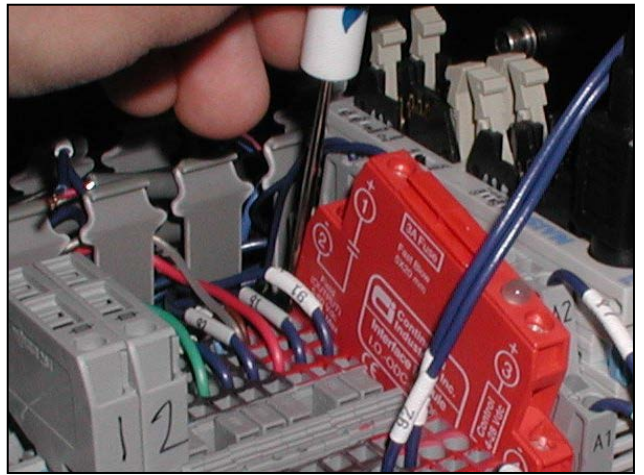

Figure 3-114. Remove Red Relay
3. Using the same screwdriver, pull the DIN release tab out and pivot Relay up and towards you (Figure 3-114).